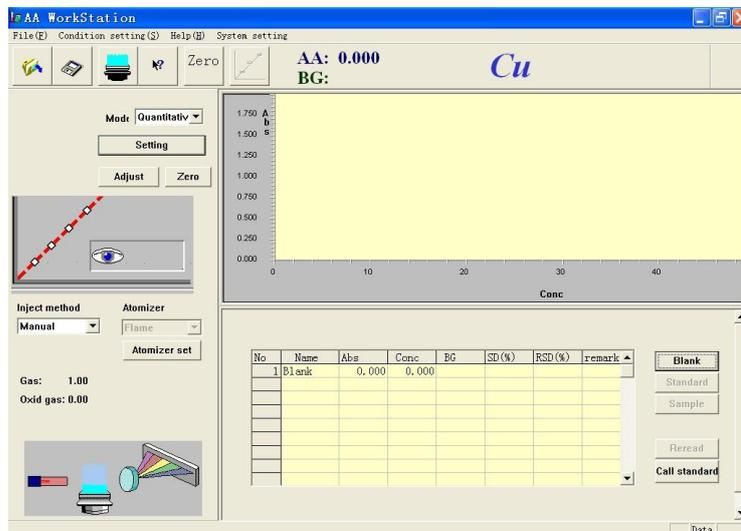

Figure 5-24
- Spray and suck the standard sample blank. Press "Standard blank", and the screen will be shown as that in Figure 5-24.